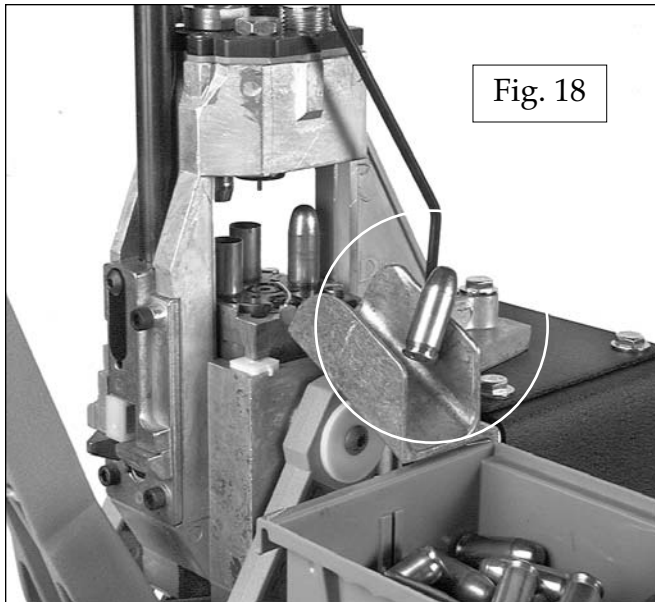

Fig. 18
4.) From this point on, place a bullet on the case at Station 3 with your left hand. Insert a case at Station 1 with your right hand and cycle the handle. Each time you cycle the machine a finished round will be ejected into the cartridge collection bin. (See Fig. 18)